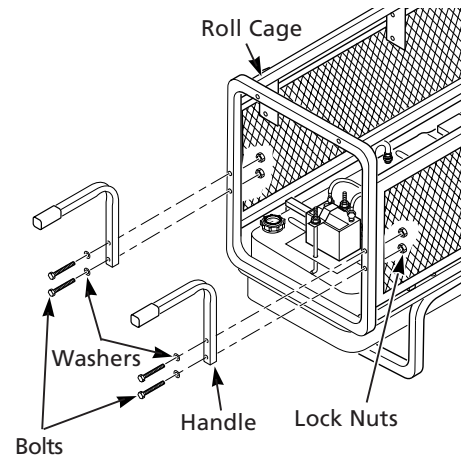

Figure 11 – Attaching Handles to Roll Cage
1. Remove the two bolts, lock nuts, and washers holding side panels to control panel end of roll cage. Insert bolts with washers through two holes in the handle and then back through roll cage and side screen panels (See Figure 11). Tighten the lock nuts against the side screen panels.